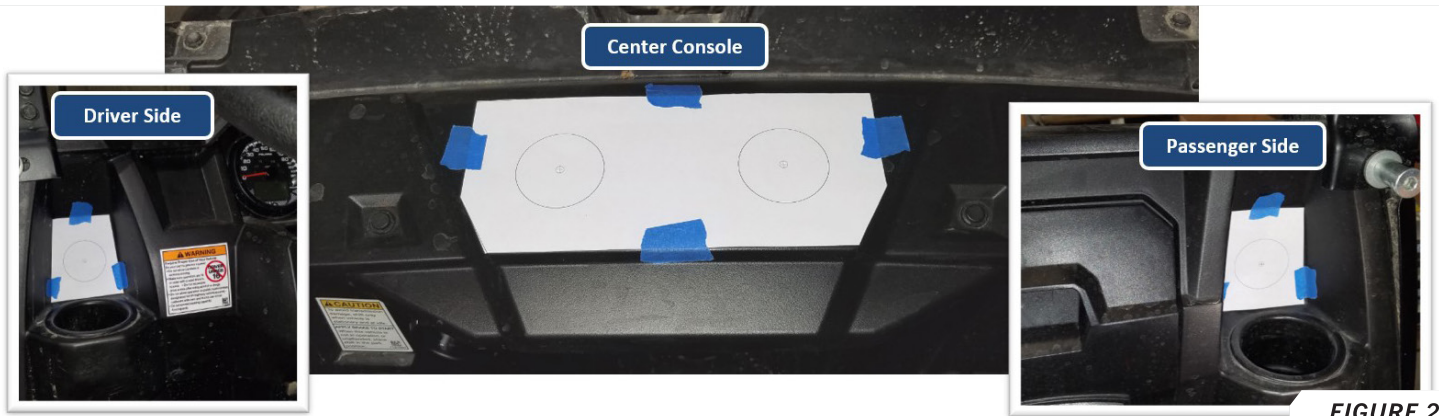

FIGURE 2
8. Cut out the templates from the back of the instruction manual. Position the templates as shown in *FIGURES 2 & 3*, and secure with tape.